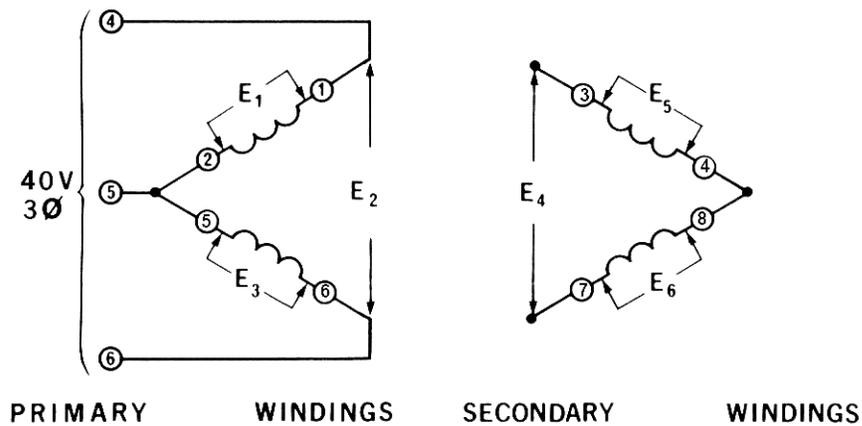

Figure 05-10.
- 8) Construct the 3-phase transformer shown in Figure 05-10.